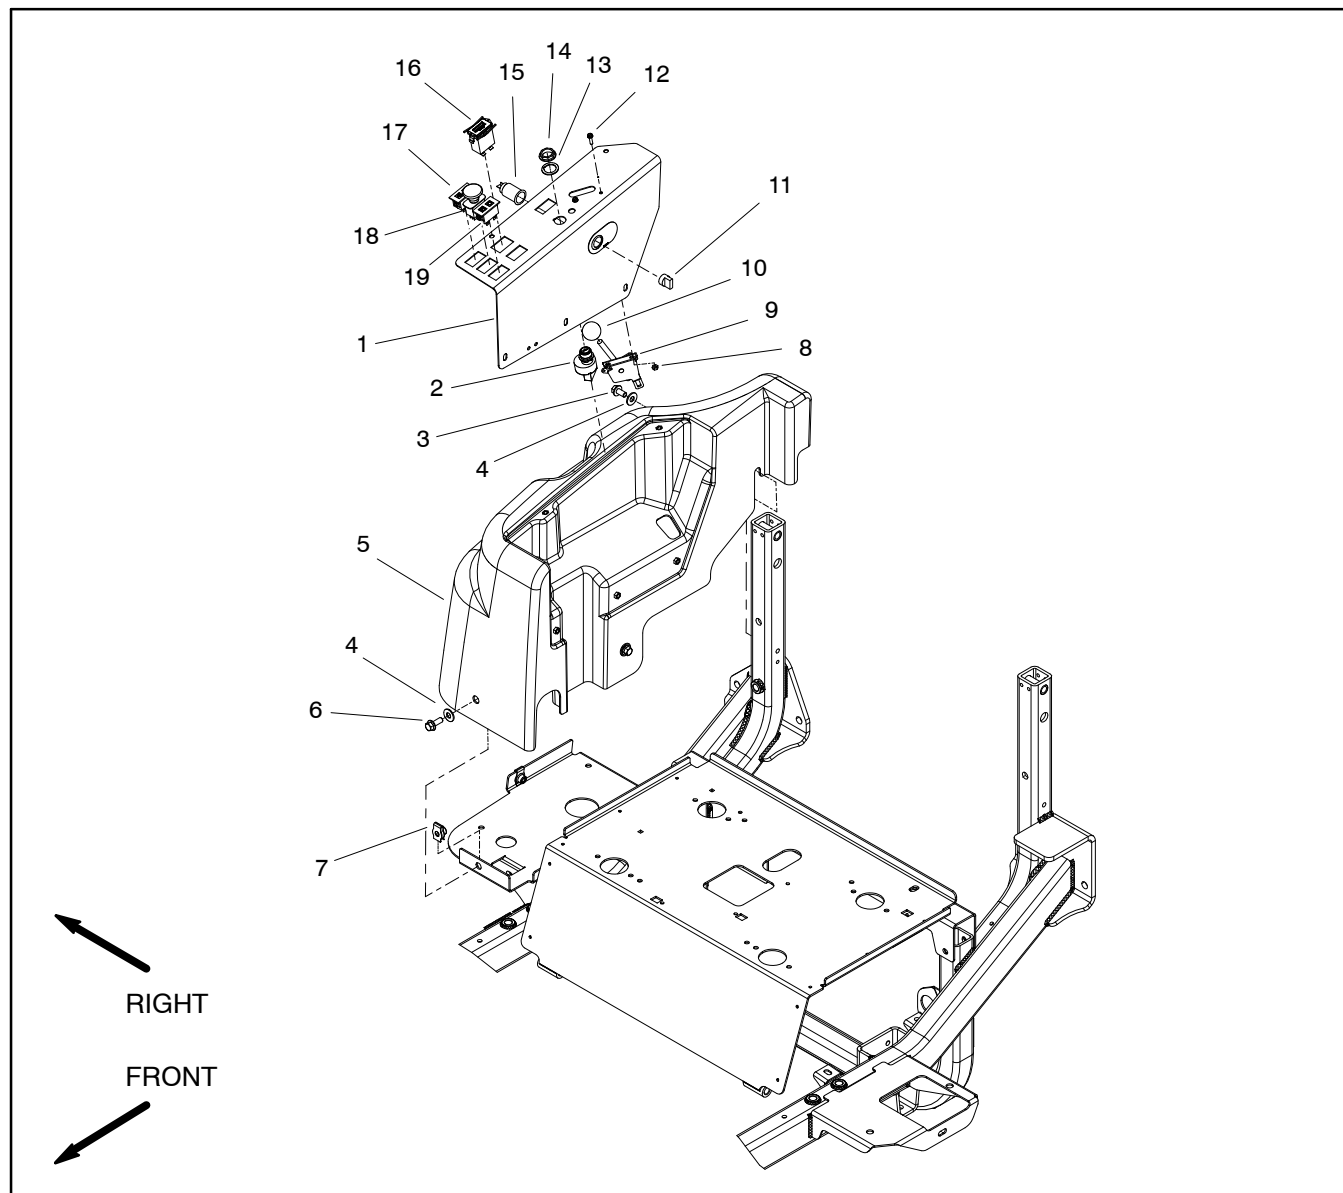

Figure 48
### Disassembly (Fig. 48)
8. If necessary, remove hydraulic tank cover using Figure 48 as a guide.
### Assembly (Fig. 48)
1. If hydraulic tank cover was removed, install cover using Figure 48 as a guide.